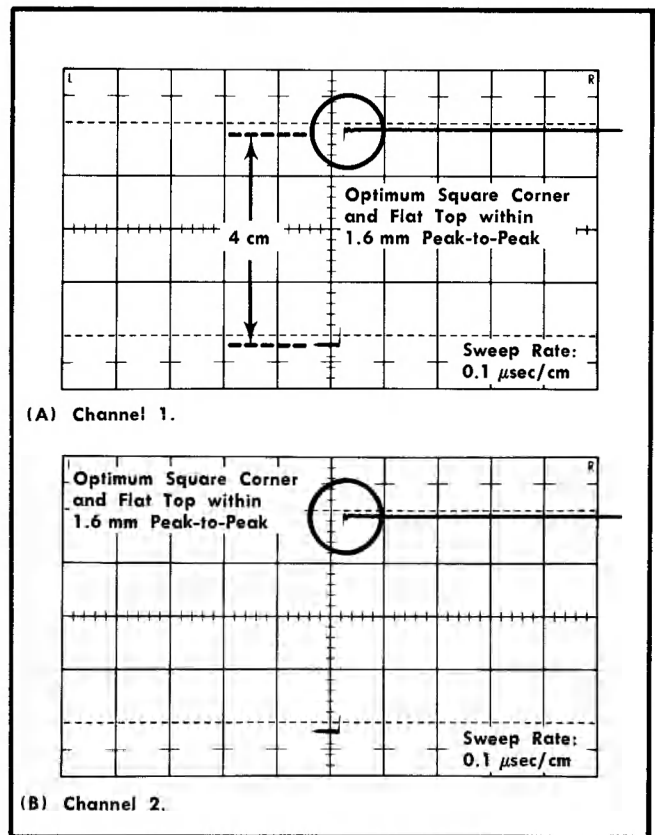

Fig. 6-4. Typical Channel 1 and Channel 2 waveforms of high-frequency response at a vertical deflection factor of 0.05 volts/cm.
d. Set the Type 106 +Transition Amplitude control to obtain a 4-cm amplitude display. Set the Symmetry control to obtain a symmetrical waveform and, if necessary, adjust the Multiplier control to obtain the 100 kHz output repetition rate. Use the Type 1A1 Channel 1 POSITION control to move the waveform near the location shown in Fig. 6-4.
f. Use the oscilloscope Horizontal Position and Type 1A1 Channel 1 POSITION controls to move the waveform near the location shown in Fig. 6-4.